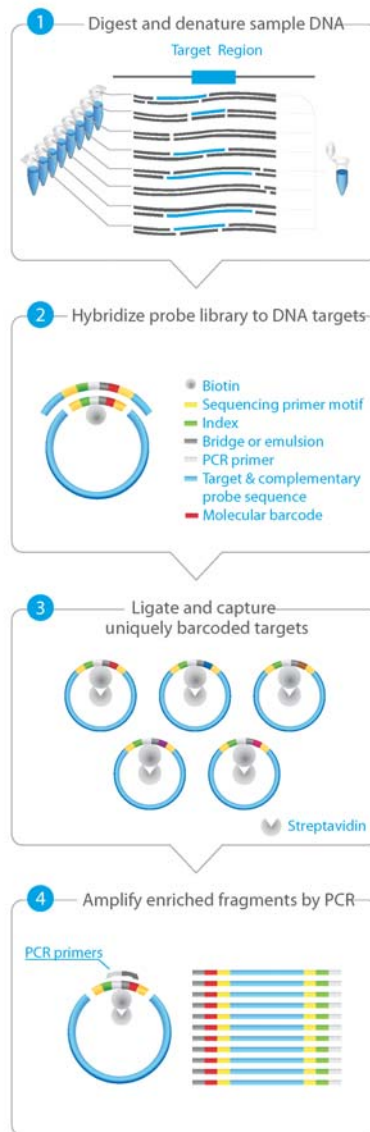

Figure 2 Overall HaloPlex HS target-enriched sequencing sample preparation workflow.
Figure 2 summarizes the HaloPlex HS target enrichment workflow. For each sample to be sequenced, individual HaloPlex HS-enriched, indexed libraries are prepared. Depending on the specific sequencing platform used, up to 96 samples can be pooled and sequenced in a single lane.
- For sample indexing during hybridization to the HaloPlex HS probe (see Figure 2), you will need to prepare a separate plate containing the HaloPlex HS Indexing Primers. Assign the wells to be indexed with their respective indexing primers during experimental design. See the Reference chapter for nucleotide sequences of the 96 indexes used in the HaloPlex HS Target Enrichment System.
Designs containing <20,000 probes use a 2-hour hybridization time. For these designs, DNA digestion through PCR protocols (see Figure 2) are typically run on the same day with the DNA digestion protocol initiated early in the day.